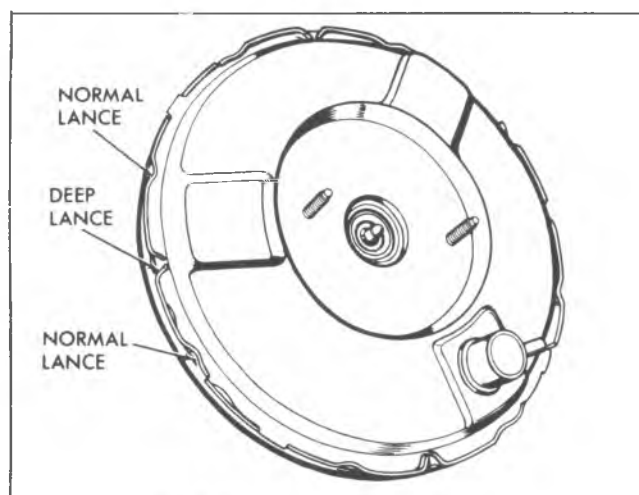

Fig. 5-3D—Lances in Rear Housing
7. The edge of the rear housing contains twelve lances. Four of these lances (one in each quadrant) are deeper than the other lances (fig. 5-3D). The metal that forms the four deep lances must be partially straightened so that the lances will clear the cutouts in the front housing. If the metal tabs that form the deep lances crack or break during straightening, the housing must be replaced.